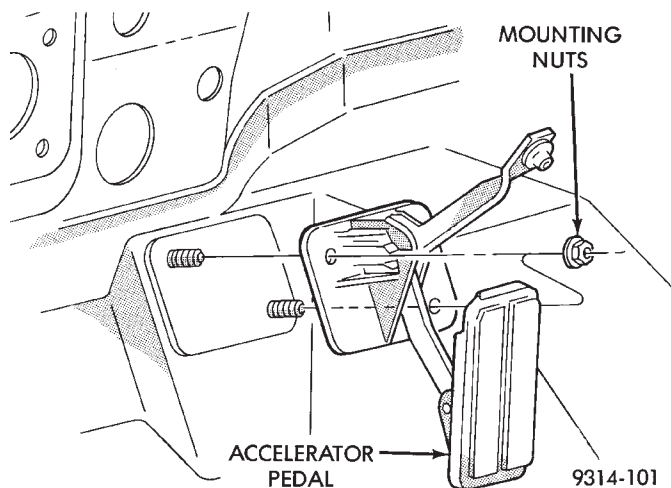

Fig. 3 Accelerator Pedal Removal/Installation
(3) Working from the passenger compartment, remove nuts from accelerator pedal base (Fig. 3). Remove pedal and base from vehicle.